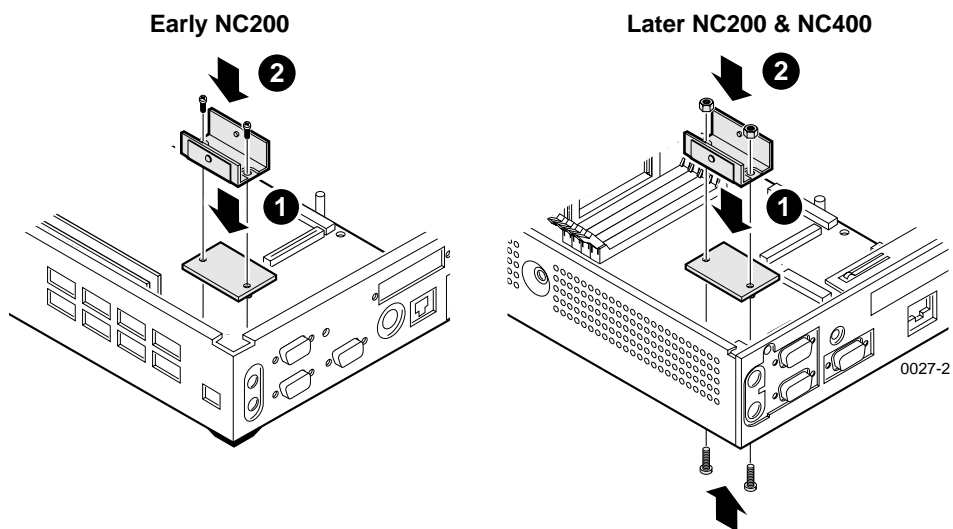

Figure 5. Installing the Frame Buffer Board and Heatsink
9. Install the Frame Buffer Memory board in place of the Terminator board as shown in Figure 5. The figure shows installation in the NC200; installation in the NC400 is essentially the same.